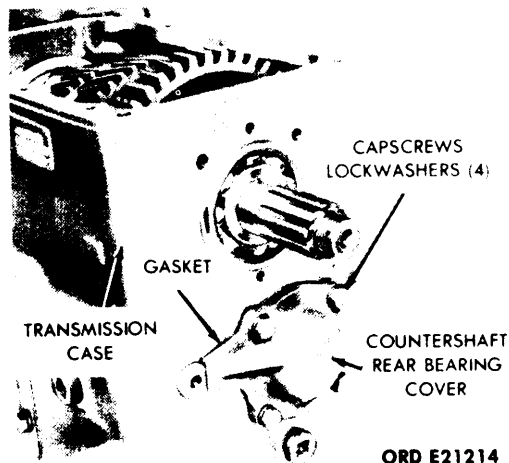

Figure 3-23. Removal of Countershaft Rear Bearing Cover.
e. *Countershaft Rear Bearing Cover.* Remove the four capscrews and lockwashers securing the countershaft rear bearing cover to the transmission case. (See fig. 3-23.) Remove the countershaft rear bearing cover and gasket. Discard the gasket.